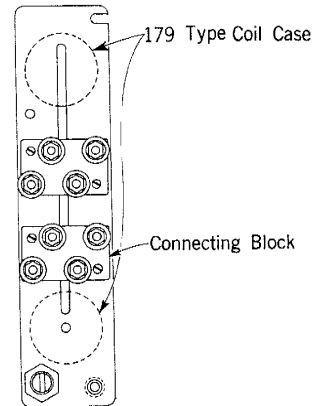

Fig. 4 — Mount Equipment on Terminal Plate
- 2.04 The terminal plate has one two-pair connecting block mounted on it. There is space for mounting a second block. The second block must be ordered separately as a *Block, Connecting, for (D or E) Buried Wire Terminal*. It is mounted by means of the small bolts furnished with it. There is also space for mounting two 179 Type Coil Cases. They are located on the terminal plate as shown in Fig. 4.